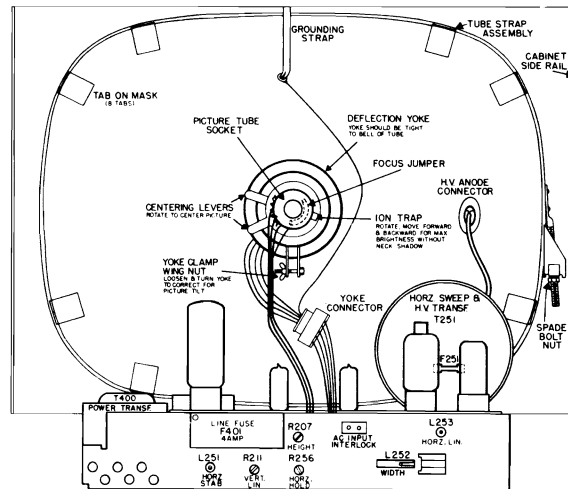

FIG. 1. PICTURE TUBE ADJUSTMENTS
**Height & Vertical Linearity:** These controls (R207 and R211), See Fig. 1, should be adjusted simultaneously to provide proper picture height consistent with good vertical linearity. The final adjustment should extend the picture approximately 1/8 inch beyond the mask limits.